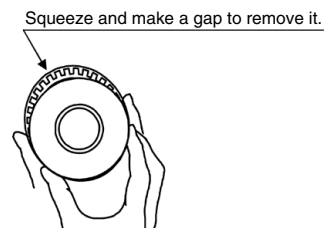

Fig. 2 Removal of the piston seal
③8 Piston seal: Remove the piston seal. (Fig. 2)
④0 Cylinder tube gasket: Insert a watchmaker's screwdriver to pull out the seal.